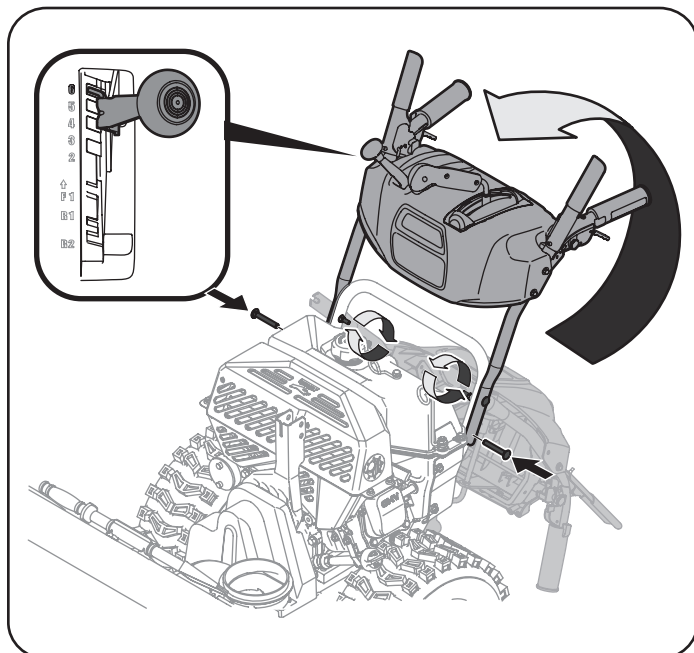

Figure 2
- c. Pull up and back on upper handle as shown in Figure 2. As you are raising the handle upward, make sure that both ends of the center cable are positioned properly in the brackets. Align upper handle with the lower handle.